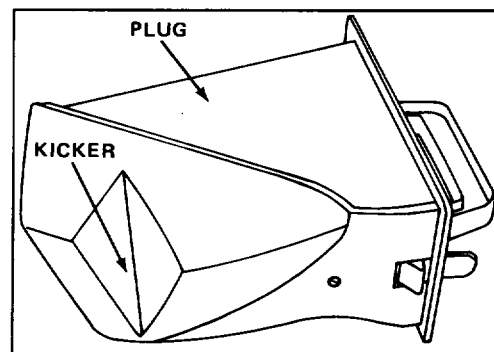

Figure 7
- C. A special plug which locks into the mower's discharge tunnel (a fifth kicker is on the plug) (Fig. 7)